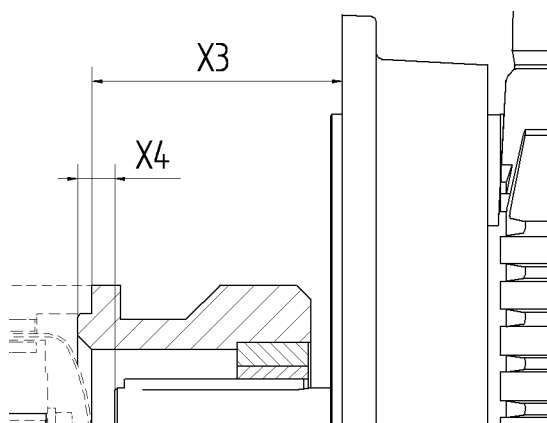

Figure 7: Setting X3 or X4.
- 6 Adjust the rotor coupling according to value X3 or X4, see figure 7 and the table below.